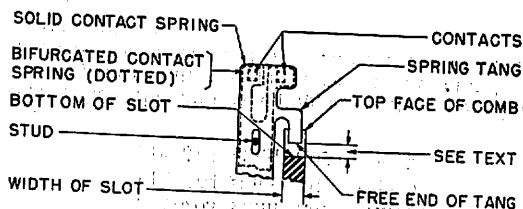

Fig. 76
- (b) The width of each spring tang should lie entirely within the slots in the comb as gauged by eye. Fig. 76
- (c) The spring studs should clear the springs through which they pass in all positions of stud travel. Fig. 76